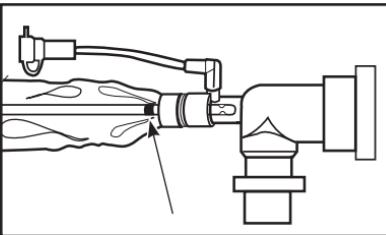

Fig. 2
3. Depress and hold thumb control valve, then gently withdraw catheter. Stop withdrawal when black marking ring is visible inside sleeve (**Fig. 2**).
1. Be sure the black marking ring is visible in the sleeve (**Fig. 2**). Open cap on irrigation port.
1. Be sure that the black ring is visible inside the sleeve (**Fig. 2**). Open cap on the irrigation port.